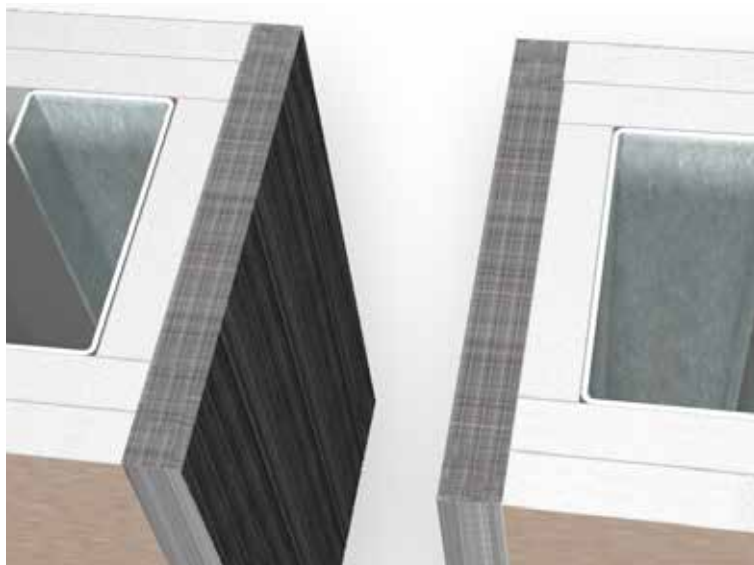

Figure 4—Application of Cement Board
- 2a. **Stud and Gypsum Fire Resistant Installations Only**—Use Cement Board at the joint interface for joints with a maximum opening of 1³/₈" or greater (Figure 4).